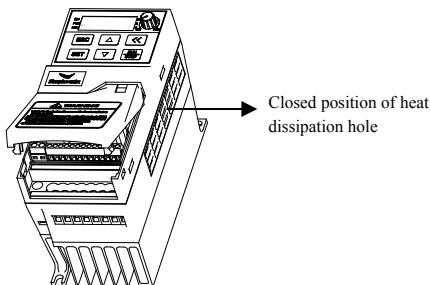

Figure 2-1-A
7. If there is too much dust in the environment, please close the cooling hole.(As show in figure 2-1-A)